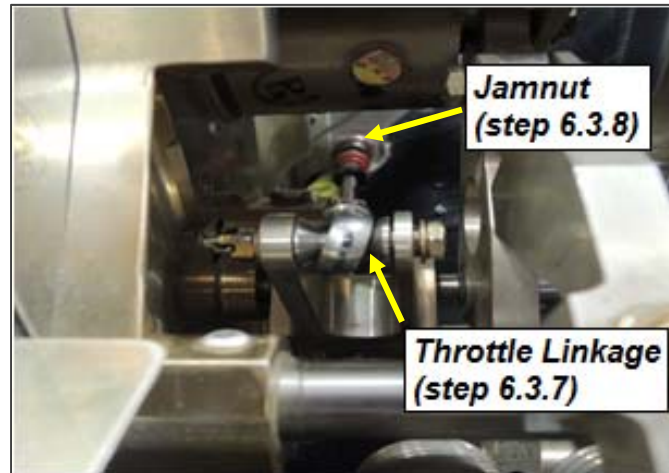

Figure 4. Throttle Linkage
- 6.3.7 Disconnect the throttle cable from the control linkage (Figure 4, and para. 13-12, MM).
- 6.3.8 Remove the throttle cable jam nut and slide the cable aft (Figure 4).